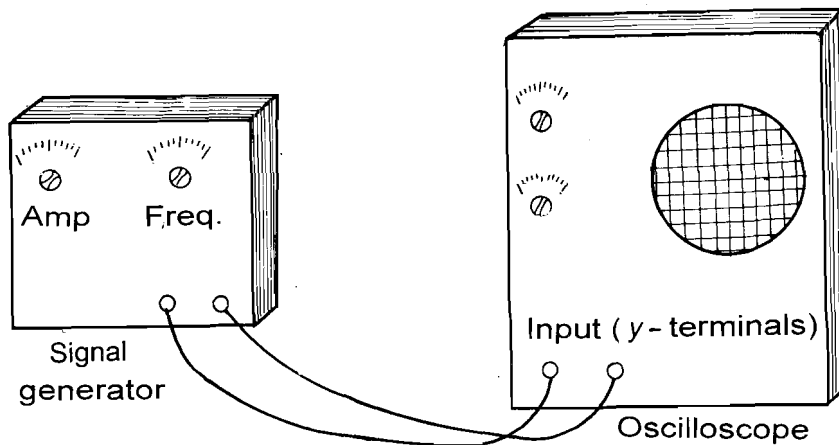

Fig.9.3: Circuit diagram for connecting an oscilloscope and a signal generator
6. Connect the output of the signal generator to the input (y -terminals) of the oscilloscope as shown in Fig.9.3.